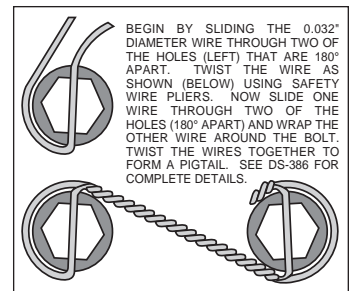

Figure 4. Safety Wire Diagram
- The hat/rotor assembly (5) has been pre-assembled at the factory using red *Loctite*[®] 271 on the mounting bolts and torqued to specification. For an added measure of security, the bolts may be safety wired using standard 0.032 inch diameter stainless steel safety wire as shown in Figure 4. Please refer to Wilwood's data sheet DS-386 (available at www.wilwood.com/Pdf/DataSheets/ds386.pdf) for complete safety wire installation instructions.